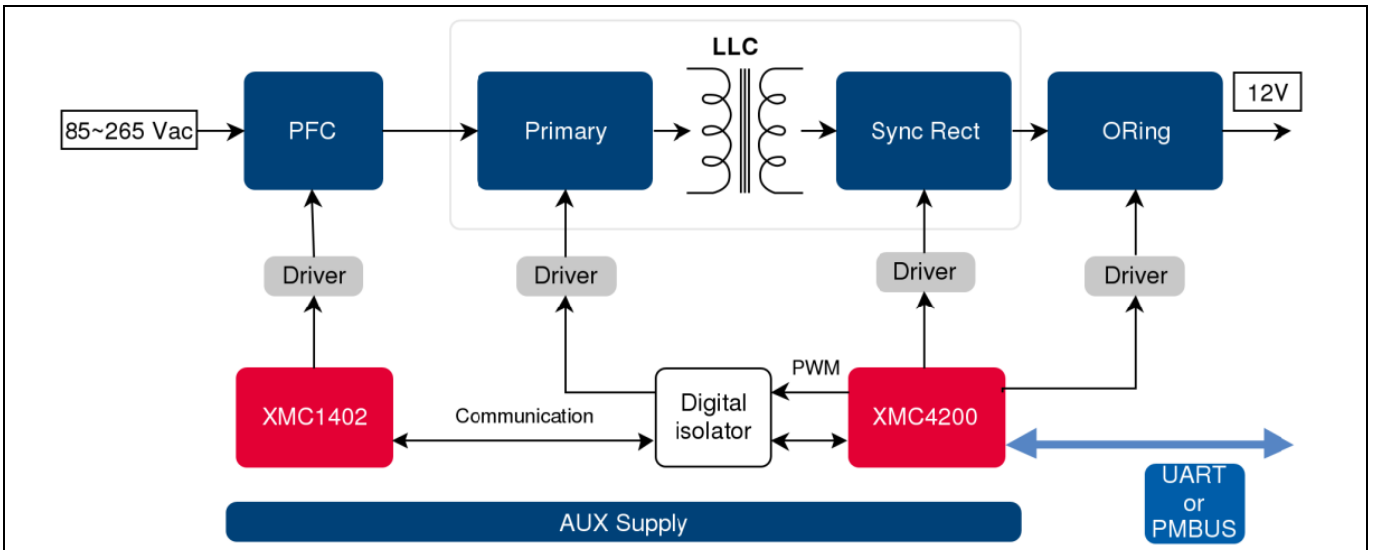

Figure 1 800 W server power supply block diagram
The example application for the PCB layout guidelines is an 800 W Platinum® server power supply [1]. The MOSFET gate driver is applied to the Power Factor Correction (PFC), primary-side LLC resonant converter, Synchronous Rectifier (SR) and O-ring, as shown in Figure 1.